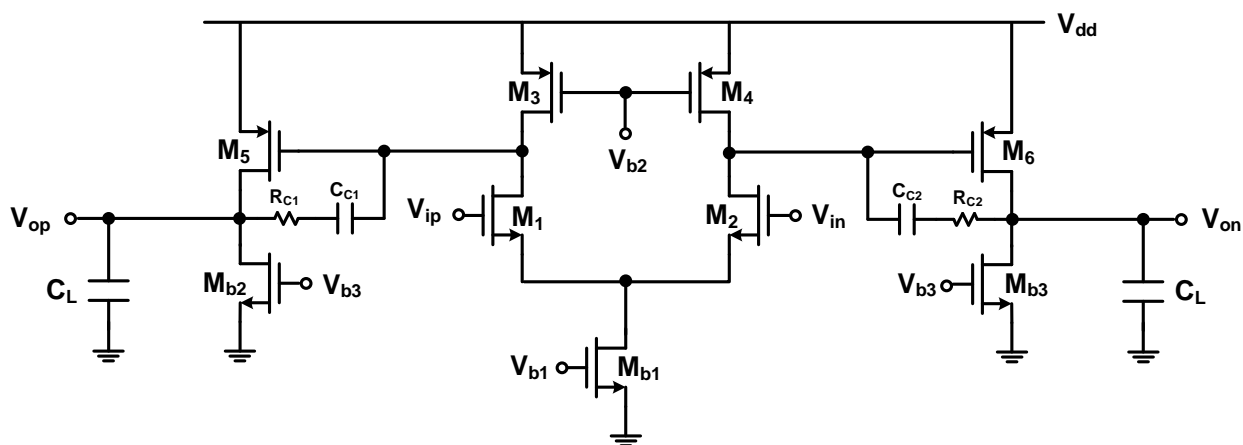

Fig.2.
2. Design a two-stage Op amp with $V_{dd} = 1.5V$, $C_L = 1pF$ as shown in Fig. 2. (55%)
(c) Remove $C_{C1,2}$ and $R_{C1,2}$ in Fig.2. (10%)